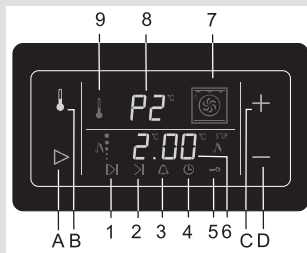

figure 2
When the function is selected, cleaning time will be automatically set to the medium cleaning level P2. Symbol (P2) will flash on the temperature display (8), and the relevant self-cleaning program duration 2.00 (Figure 2) will be indicated on the time display (6).